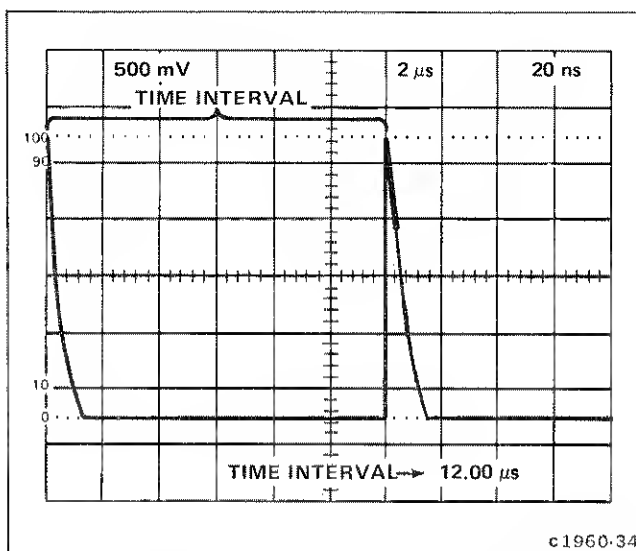

Figure 2-7. Measuring time intervals from a triggering event (start of sweep) to any point on a waveform.
6. Set the vertical deflection factor and 7B15 sweep rate for the desired display. See the example in Figure 2-7.
7. Set the delayed (B) unit sweep rate for about a 0.5 division intensified zone.
9. Read the time interval from the start of the sweep to the leading edge of the intensified zone directly on the crt readout (see Figure 2-7).